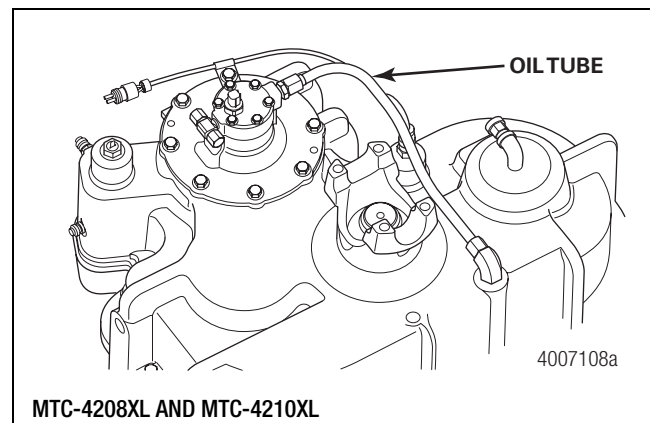

Figure 6.45
2. Install the oil inlet tube to the lower and upper fittings. Tighten the fitting nuts to 35-40 lb-ft (48-54 N•m). Figure 6.45. ⚙